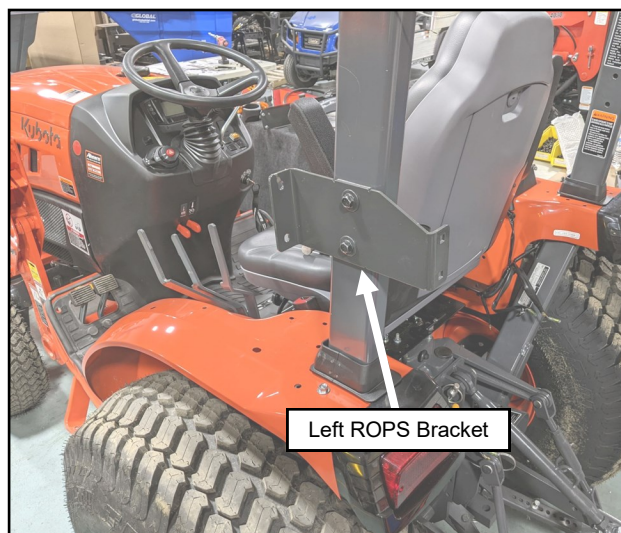

Fig. 2.2 (Install Left ROPS Bracket)
- 2.2** Attach the left ROPS bracket to the ROPS. See Figure 2.2. Leave hardware loose.